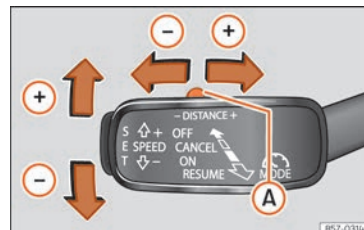

Fig. 262 On the left of the steering column: third lever for operating the Adaptive Cruise Control.
» **Fig. 262** button. If you wish to increase or reduce speed by intervals of 1 km/h (0.6 mph), move the lever to position **(2)**
»» **Fig. 262 (A)**.